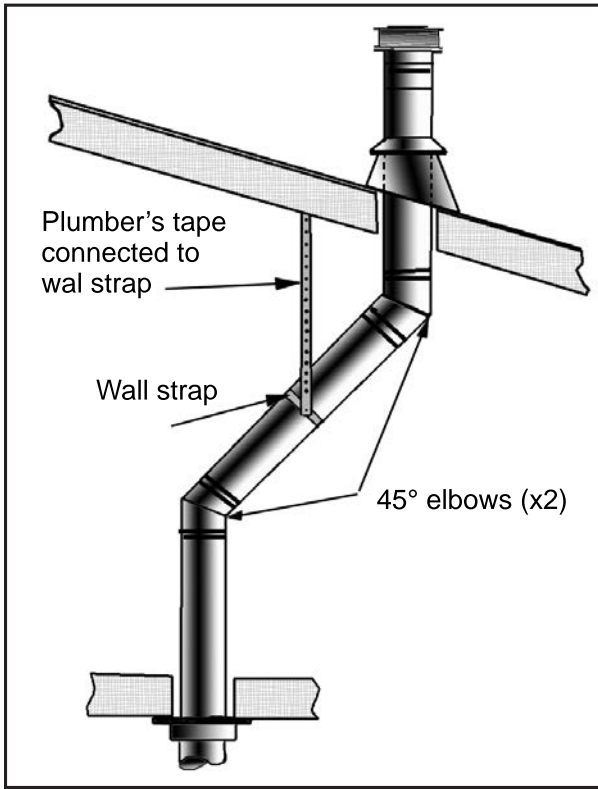
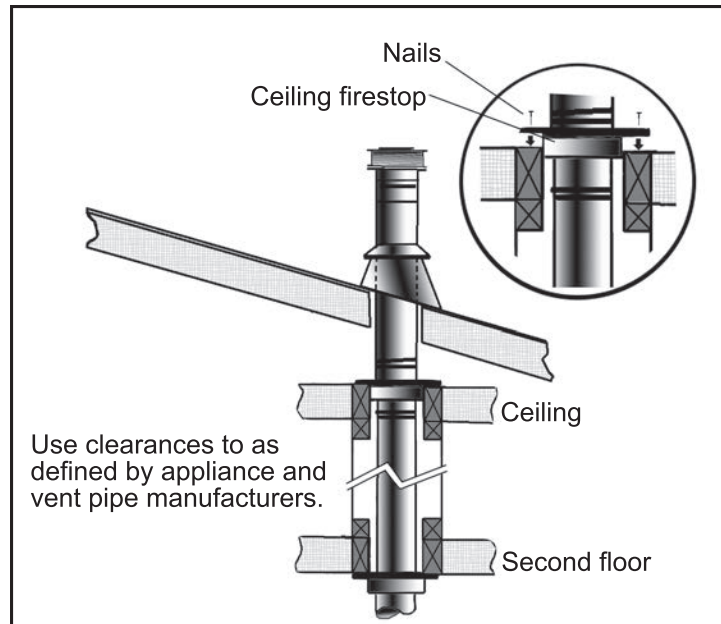

Figure 37: Use of Wall Straps.
Figure 38: Multi-Story Vent Pipe Installation.
- (1) If an offset is necessary in the attic to avoid obstructions, it is important to support the vent pipe every 3 feet (914 mm), to avoid excessive stress on the elbows, and possible separation. Wall straps are available for this purpose (see Figure 37).
- (2) When ever possible, use 45° degree elbows instead of 90° degree elbows. The 45° degree elbow offers less restriction to the flow of flue gases and intake air.
- (3) For multi story installations; a ceiling firestop is required at the second floor, and any subsequent floors (see Figure 38). The opening should be framed to 10" (254 mm) x 10" (254 mm) inside dimensions, in the same manner as shown in Figure 27.
- (4) Any occupied areas above the first floor, including